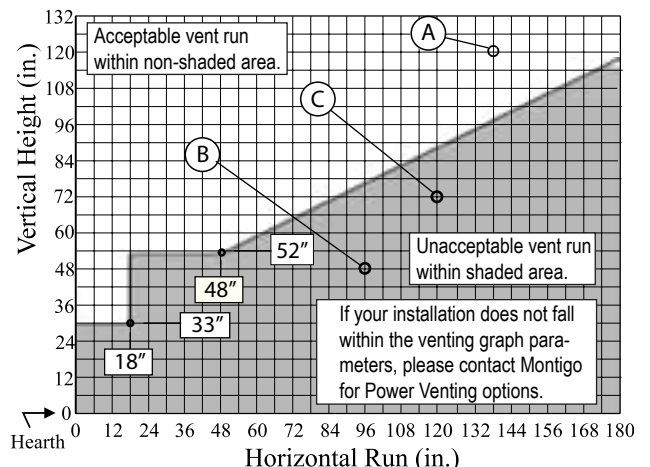

Figure 17. Rear Vent Venting Graph for wall mounted terminations.
- Venting runs *must* fall within the limits set by the venting graphs, see **Figure 17**.
Measure the vertical height from the fireplace hearth to the centre of the termination and the horizontal run from the fireplace flue collar to the wall flange of the termination. Plot on the Venting Graph **Figure 17** with an 'X'. If the 'X' falls on or above the top boundary of the shaded area, the installation is acceptable.
Figure 17a. Straight run, Rear Vented, wall mounted termination for H*42DF*, Figure 17. N.G. (Natural Gas) equipped fireplaces ONLY. For Propane fireplaces, see figure 17b below.
Figure 17b. Rear Vented, wall mounted Multi-elbow termination installation. Installation for H*42DF* must have a minimum vertical rise of 52". The vent run must comply with the Venting Graph for Rear vent, wall mounted terminations, Figure 17.